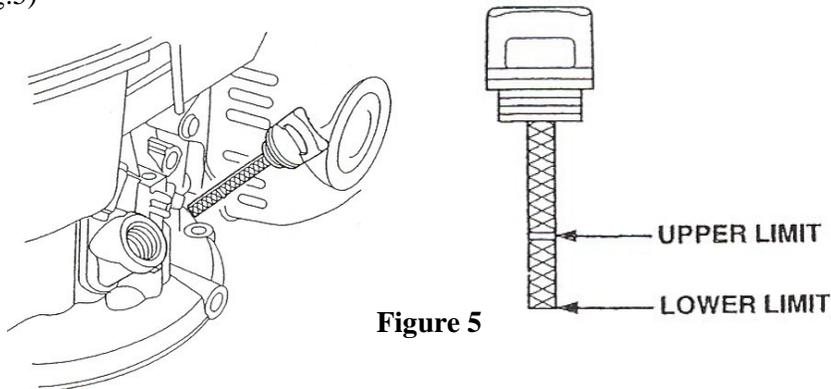

Figure 5
Before each use, ensure that the oil level is between the *Lower* and *Upper limit* marks on the dipstick (Fig.5)
6. Insert the dipstick into the filler neck BUT DO NOT SCREW IT IN. Then remove the dipstick and read the oil level. (Fig. 5)
1. **Make sure the engine is filled with oil (Fig.5)**